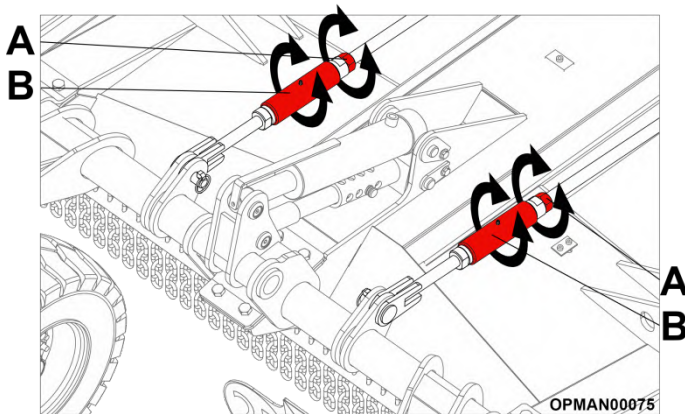

Figure 4.20 – Tie Bar Adjustment
4.7.1.3 Loosen the locking nuts and then turning the barrel nut on the adjustable tie bars; see Figure 4.20 (A)
4.7.1.4 Once set at the desired height tighten the locking nuts once again; see Figure 4.20(B).